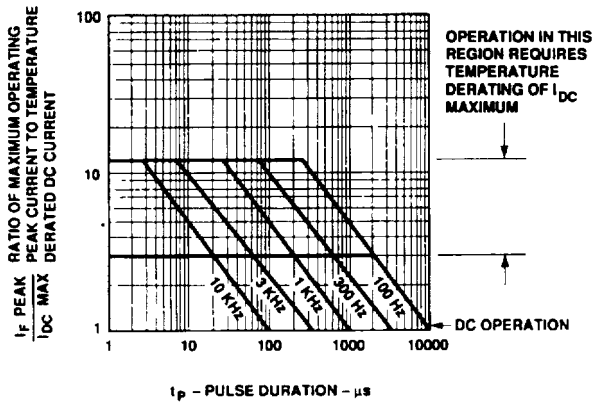

Figure 9. Allowable Peak Current vs. Pulse Duration - Green Series.
- 9 See Figure 9 to establish pulsed conditions.